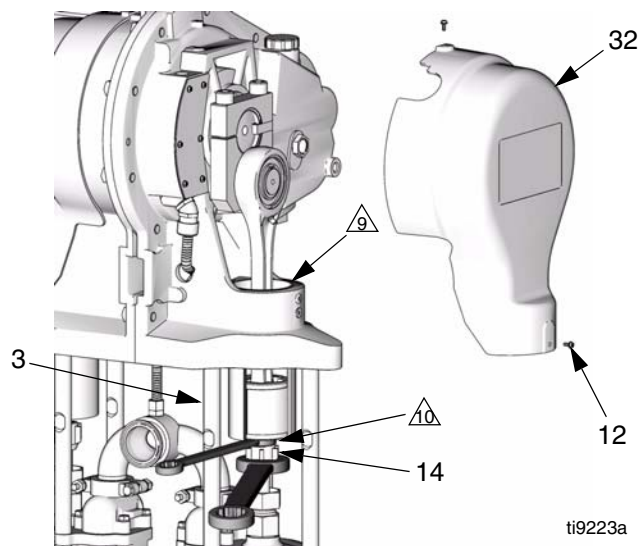

FIG. 5. Remove Coupling Nut (Stand Side Shown)
5. Remove four screws (12) and both covers (21, 32). FIG. 5 shows the cover (32) on the stand side; the motor side cover is (21).